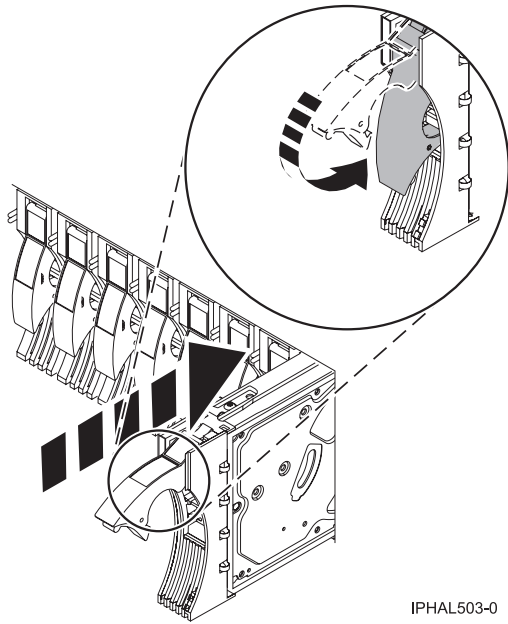

Figure 16. Installing a disk drive
8. Push the disk drive handle in until it locks, as shown in Figure 16 on page 23.